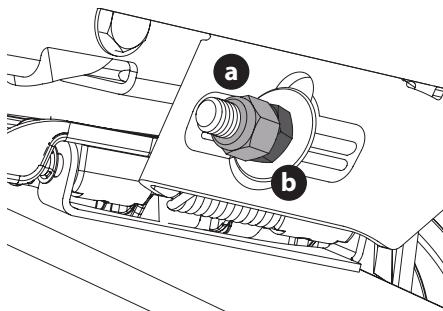

Figure 36
5. To raise the front of the deck, remove the end cap, loosen the outer jam nut (a) then tighten (thread inward) the inner nut (b) against the front hanger bracket (Figure 36). When proper adjustment is achieved, re-tighten the outer jam nut (a) to 57 ft-lbs (77 N-m) and replace the end cap.
6. To lower the front of the deck, remove the end cap, loosen the outer jam nut (a) then loosen (thread outward) the inner nut (b), away from the front hanger bracket (Figure 36). When proper adjustment is achieved, re-tighten the outer jam nut (a) to 57 ft-lbs (77 N-m) and replace the end cap.